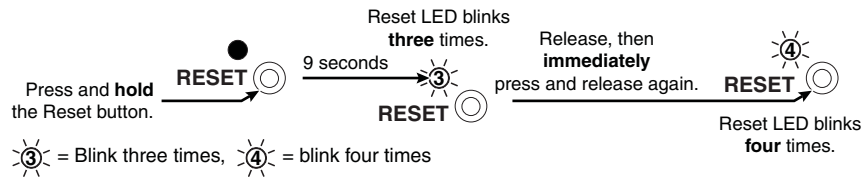

Figure 3-55 — Whole switcher and absolute resets
1. Press and **hold in** the Reset button until the front panel Matrix and Preview buttons blink once (for events reset), twice (for system reset), or three times (for absolute reset) (figure 3-55).